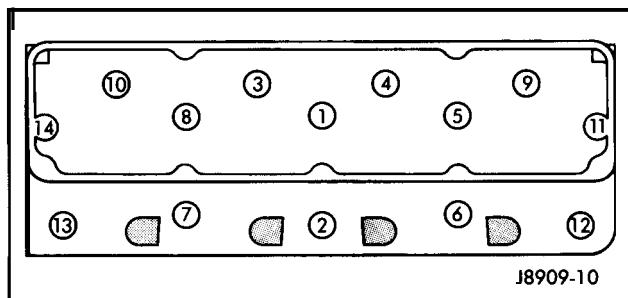

Figure 7-19
4. Tighten the cylinder head bolts evenly with 108 N·m (80 ft-lbs) torque following the tightening sequence (Figure 7-19). Then repeat the sequence and tighten the bolts to 149 N·m (110 ft-lbs) torque.